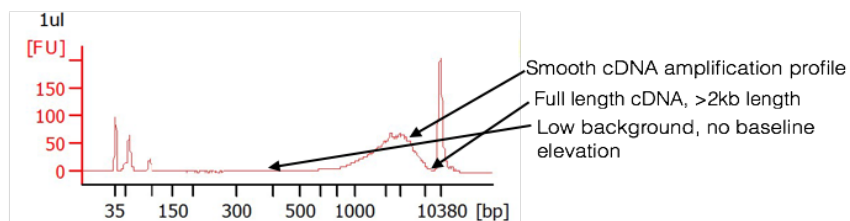

Figure 1: cDNA trace from DNA high sensitivity chip.
16. Run 1 ul of cDNA on a DNA High sensitivity chip on the Agilent Bioanalyzer. The good amplification trace is shown in figure 1.